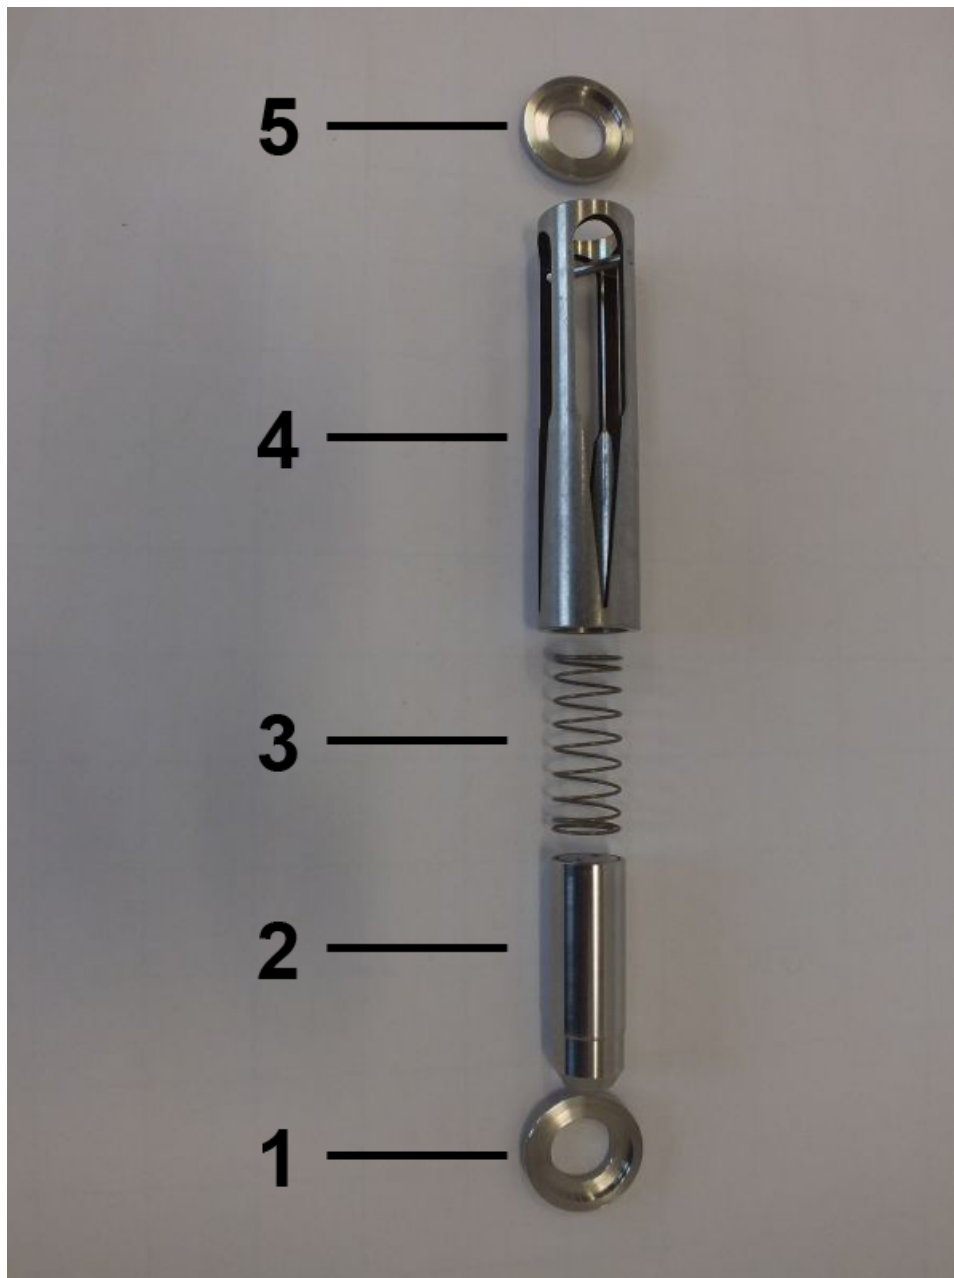

Fig. 52: Inner parts
6. The inner parts of the flow monitor consists of the centering disc (inlet) (Fig. 52/1), float (Fig. 52/2), spring (Fig. 52/3), slot nozzle (Fig. 52/4) and centering disc (outlet) (Fig. 52/5)